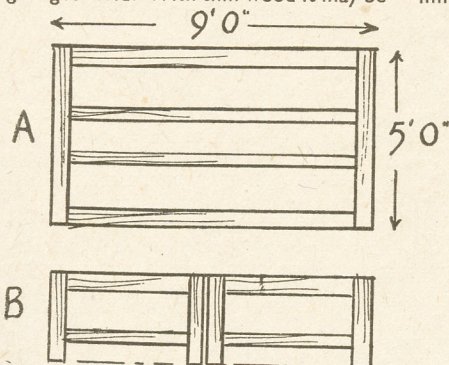

Fig. 1—The framework for the plywood
A framework on which the plywood is to be mounted must first be constructed. Fig. 1 (A) shows this, and as will be seen in the diagram, it consists of two long sides, two ends, and two long rails between. The latter can be cut from  $1\frac{1}{2}$  in. wide stuff, the remainder from 2 in. stuff. All should be  $\frac{3}{4}$  in. thick. To those who do not mind a little extra trouble, the lot could be sawn off a plank of the stated thickness. See the edges are planed quite square with the face sides.